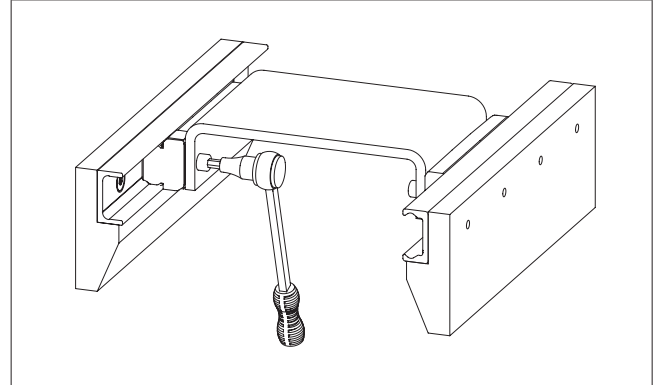

Fig.80
- (2) Install the compensating bearing rail and only tighten the fixing screws slightly.
- (3) Insert the sliders in the rails and install the element to be moved, without tightening its screws.
- (4) Insert the element in the center of the rails and tighten it, using class 10.9 screws for the sliders (see Fig.80).